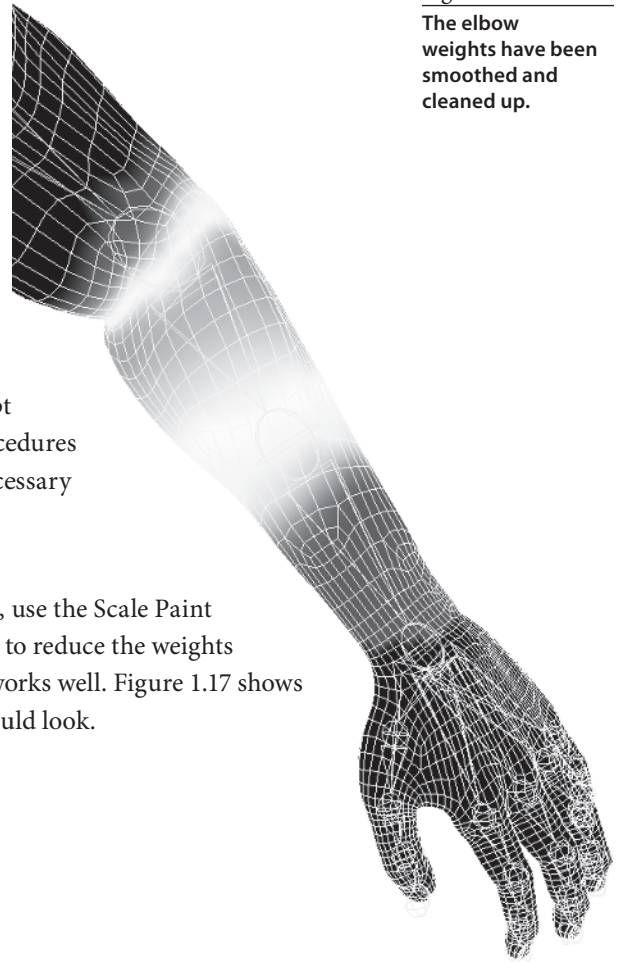

Figure 1.16
22. Select the Smooth Paint operation. Toggle back and forth between the elbow and shoulder joints, smoothing the weights until they're blended nicely. When you're satisfied, clean up the smaller weights by painting them with a 0.0 value. The weights of the two joints should only bleed over the elbow area by a couple of edge loops. Figure 1.16 shows the finished results.